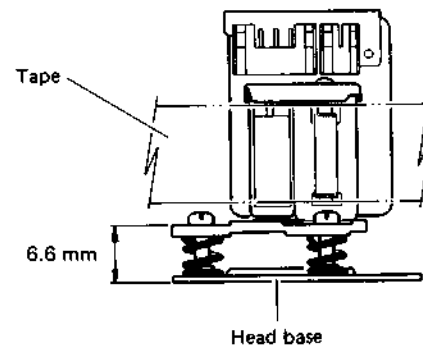

Fig. 1-2-3 A/C head height
- 2) Before installing the A/C head on the main-deck, perform rough-adjustment of A/C head height as shown in Fig. 1-2-3.